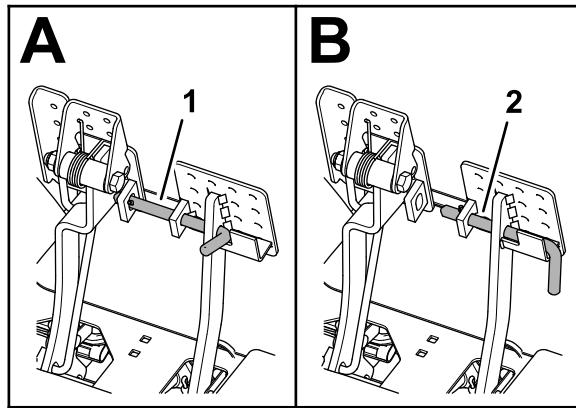

Figure 159
2. Disengage the pedal-locking latch between the brake pedals (Figure 159) so that both pedals work independently of each other.